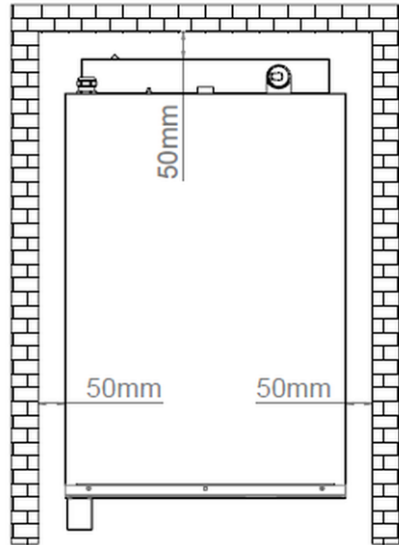

Fig. 3
- Maintain clearance of at least 50 mm at all sides from walls and other appliances (Fig. 3).